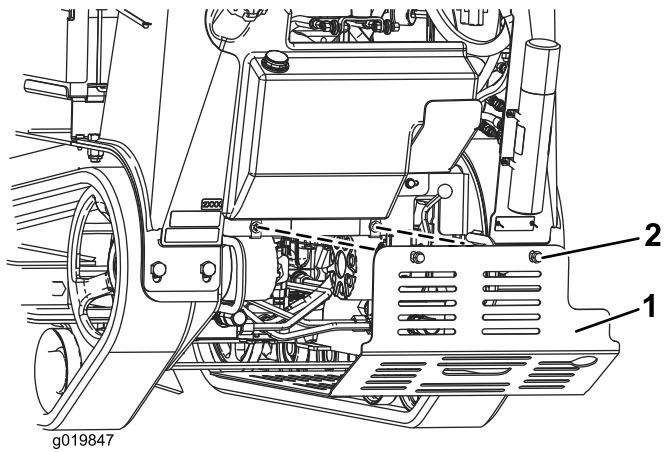

Figure 26
- Loosen the 2 bolts securing the bottom shield sequentially until the shield is free (Figure 26).
- To install the shield before operating the machine, slide the bottom shield into the machine so that it rests on all 4 tabs and secure it with the 2 bolts you loosened previously (Figure 26).